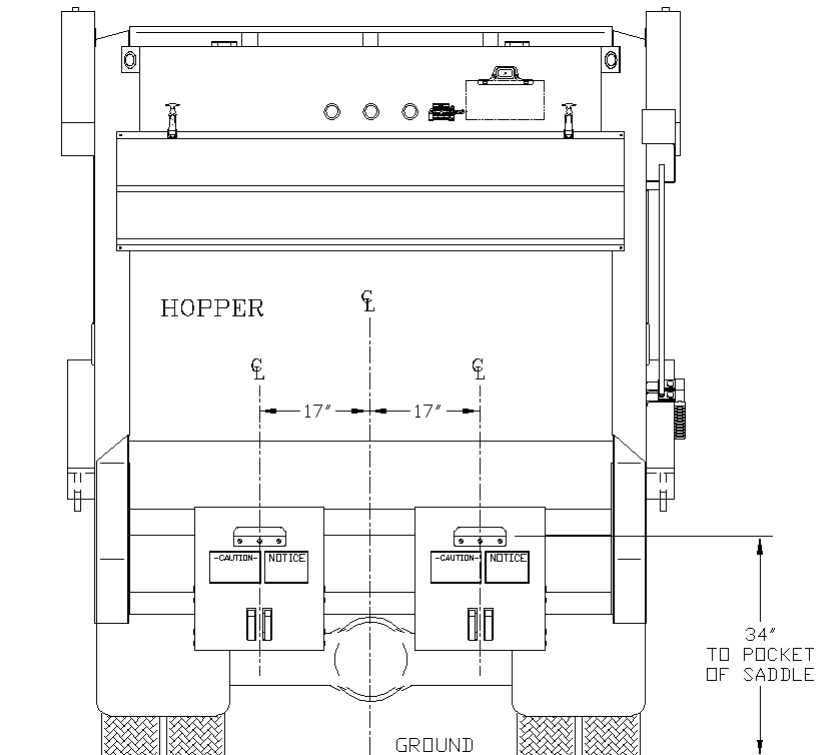

Figure A-1
3. Position the lifter(s) on the sill of the truck per Figure A-1 and mounting height drawing and tack weld in place. See **Appendix A** for drawings. If using an "S" unit for bolt on applications, tack weld the mounting plate in place and attach the lifter to the mounting plate using the 1/2" studs.